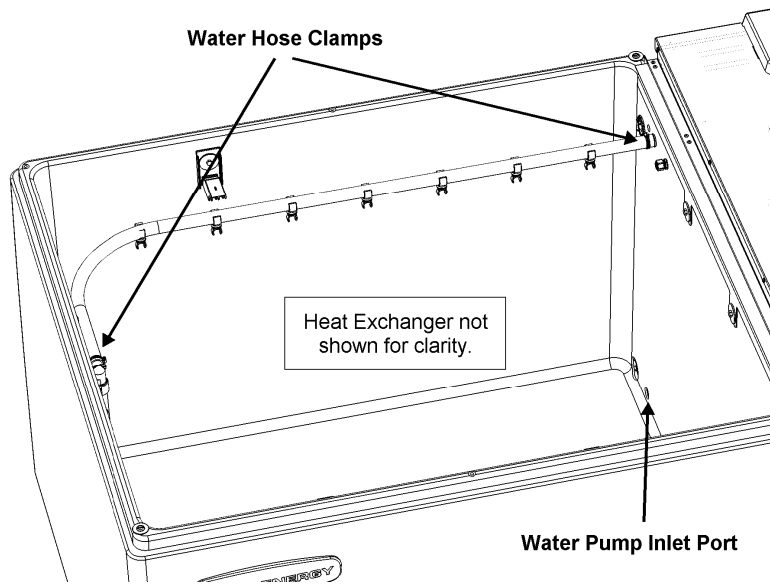

Figure 18 – Water Hose Clamps & Pump Inlet Port
2. Disconnect the 1" water HOSE inside the TANK to prevent siphoning (disconnect using either HOSE CLAMP). See Figure 18.
3. In certain locations, draining of the ICE STORAGE TANK may not be feasible; therefore, simply blocking the PUMP INLET PORT inside the TANK will prevent water from draining while servicing. See Figure 18 for location of PUMP INLET PORT.
4. While holding the MOTOR BODY, unfasten the (4) BOLTS that attach the MOTOR to the PUMP CASING. Start by removing the (2) bottom BOLTS first, then slowly loosen the top (2) BOLTS. Allow the water to drain from the bottom of the PUMP. When the water has finished draining, remove the (2) top BOLTS. Remove the MOTOR straight out from the PUMP CASING, being careful of its attached IMPELLER. The MOTOR is heavy; do not drop it!
7. Remove the rotary part of the mechanical SEAL by gently pulling it off the SHAFT. If too tight, use (2) small flat-blade screwdrivers. Gently pry it off the SHAFT by placing the flat side of the blades onto opposite sides of the mechanical SEAL.